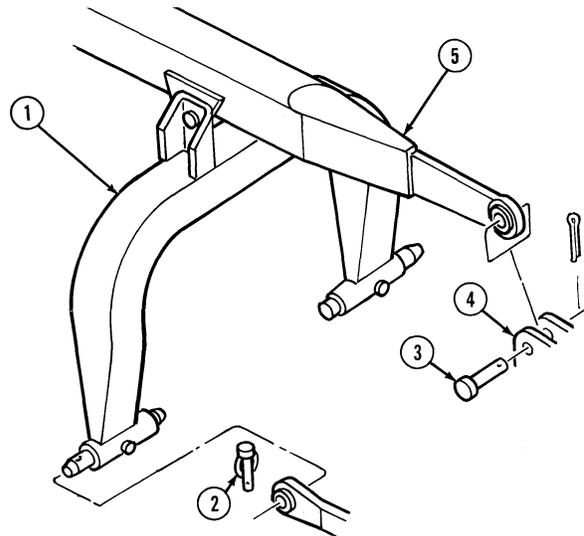

Figure 9
- 1. Attach the tractor lower links to the post hole digger mast (1), and secure with linch pins (2), Figure 9.